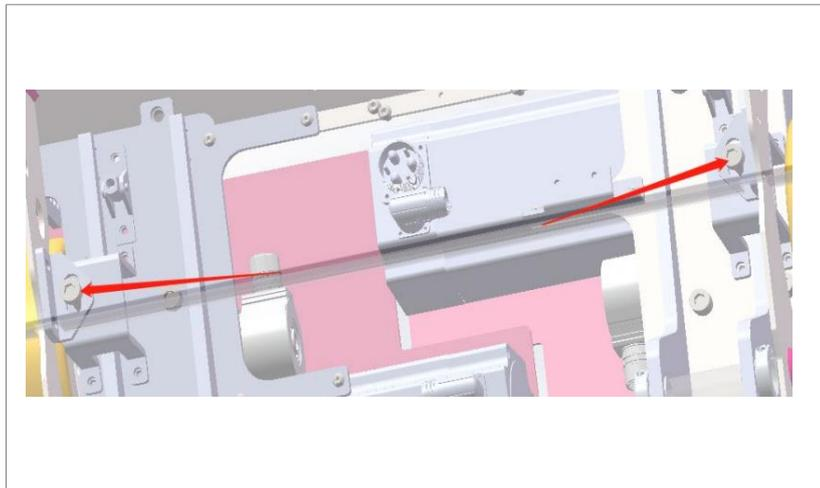

Fig. 10: Screws to get the drive units up.
- Lift the drive units by loosen the screws as shown in figure 10, in order to move MAV freely.